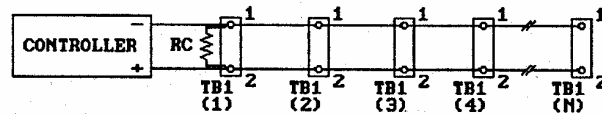

Figure 3-7. Controlling Several 2Zs Connected in Series
- a. Connect each unit as shown in Figure 3-7.